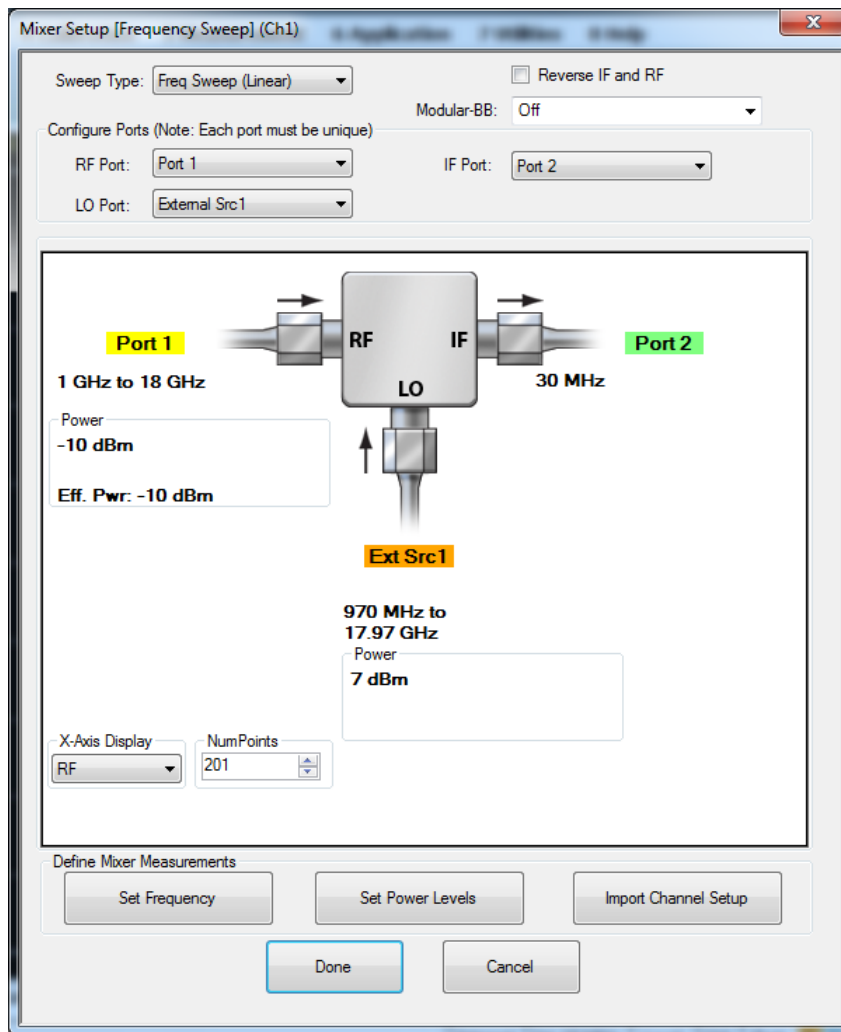

Figure 7: VNA Mixer Setup
- 3) Open the mixer measurement configuration dialog (figure 7). On the VNA: